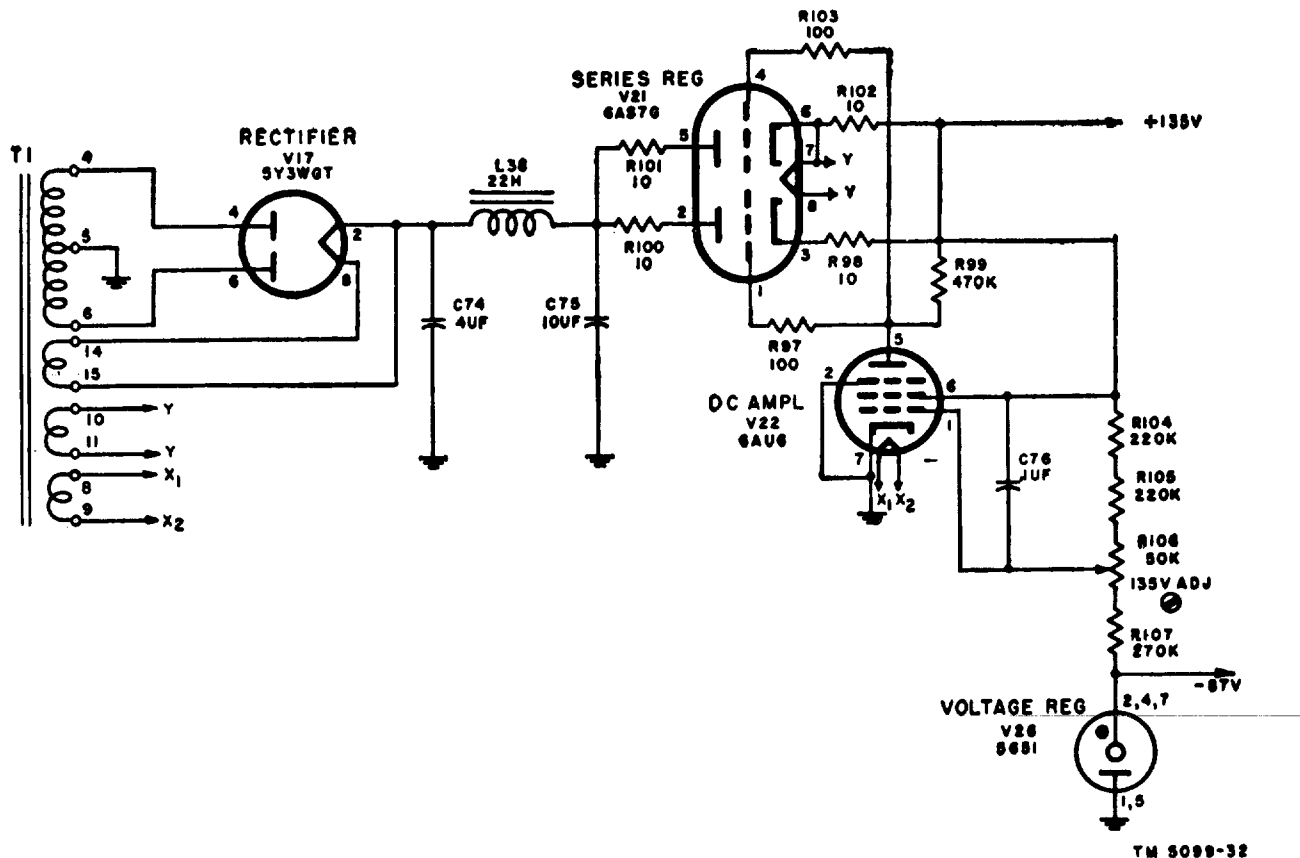

Figure 40. Regulated +165-volt supply, simplified schematic diagram.
a. *Regulated +135-volt Supply* (figs. 40 and 60). The regulated +135-volt power supply consists of full-wave rectifier tube V17, series regulator tube V21, de amplifier tube V22, voltage regulator tube V26, and the circuit elements associated with these tubes. The power supply is regulated electronically to keep the de output constant with changes in input voltage or load current. It furnishes a regulated +135 volts for operation of the spectrum analyzer.